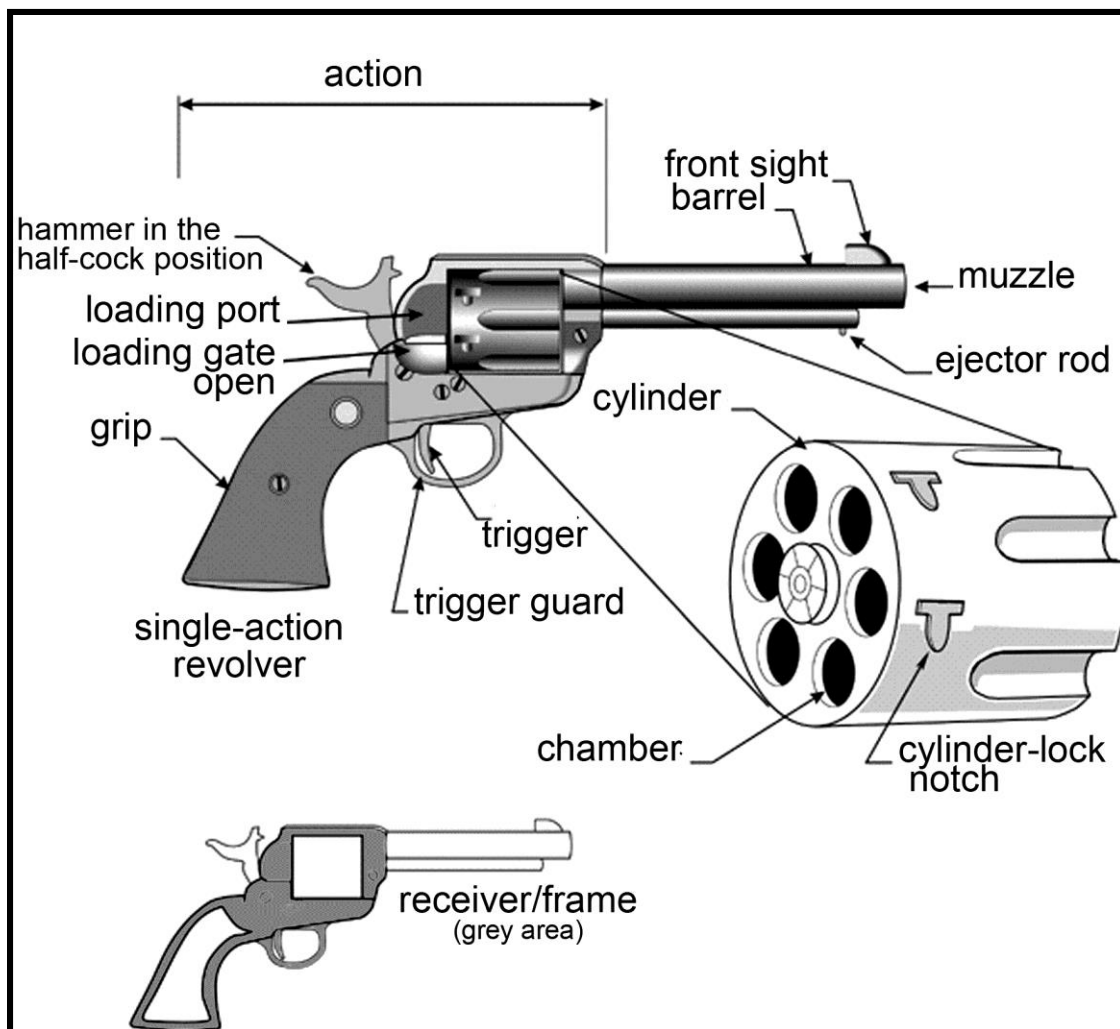

Figure 108. Single-action Revolver
- c. The extra cartridges in a manually repeating revolver are contained in the cylinder (Figure 108).